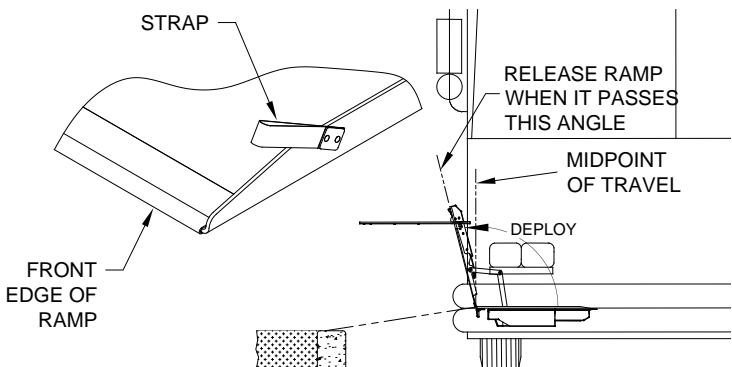

FIGURE 3-4: RAMP MIDPOINT DURING MANUAL DEPLOY
- 1) Refer to **Figure 3-4**. Grasp manual lifting strap on front edge of ramp.